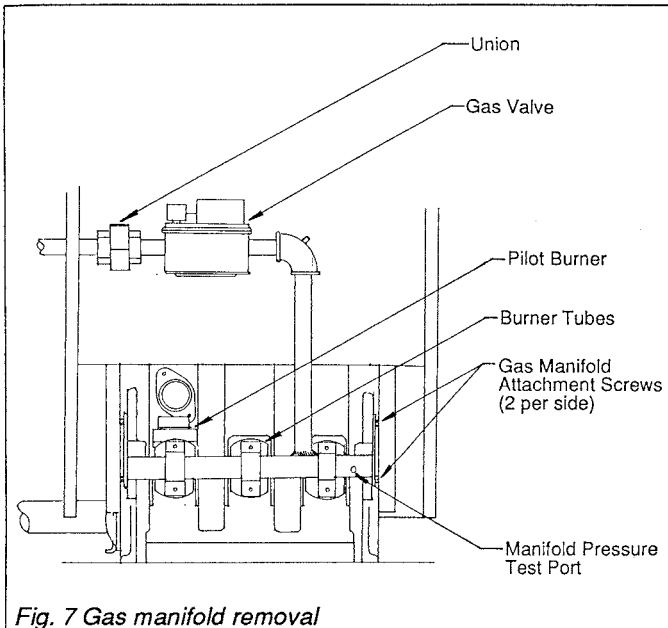

Fig. 7 Gas manifold removal
6. Loosen manifold bolts. (Do not remove, only loosen.) Lift and pull out complete gas burner with manifold (Fig. 7) to front.